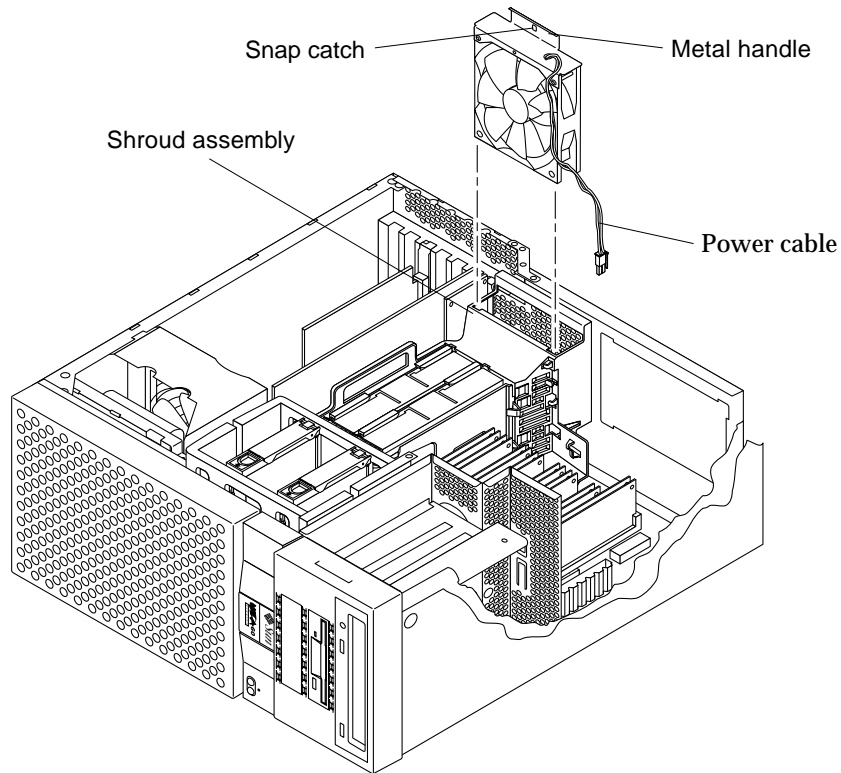

FIGURE 8-24 Removing and Replacing the CPU Fan Assembly
4. Disconnect the CPU fan as follows (FIGURE 8-24):
1. **Connect the CPU fan assembly as follows (FIGURE 8-24):**